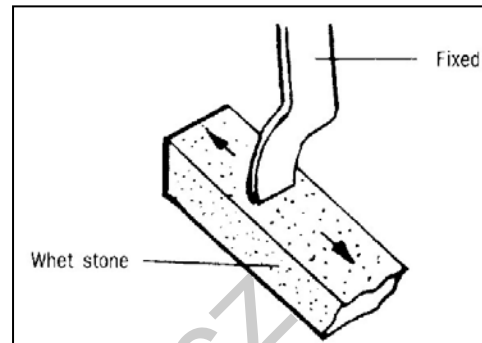

Fig.29
- B. If the edge of the fixed blade is worn, make sure to grind the knife edge with an oil grindstone as shown in Fig.29.